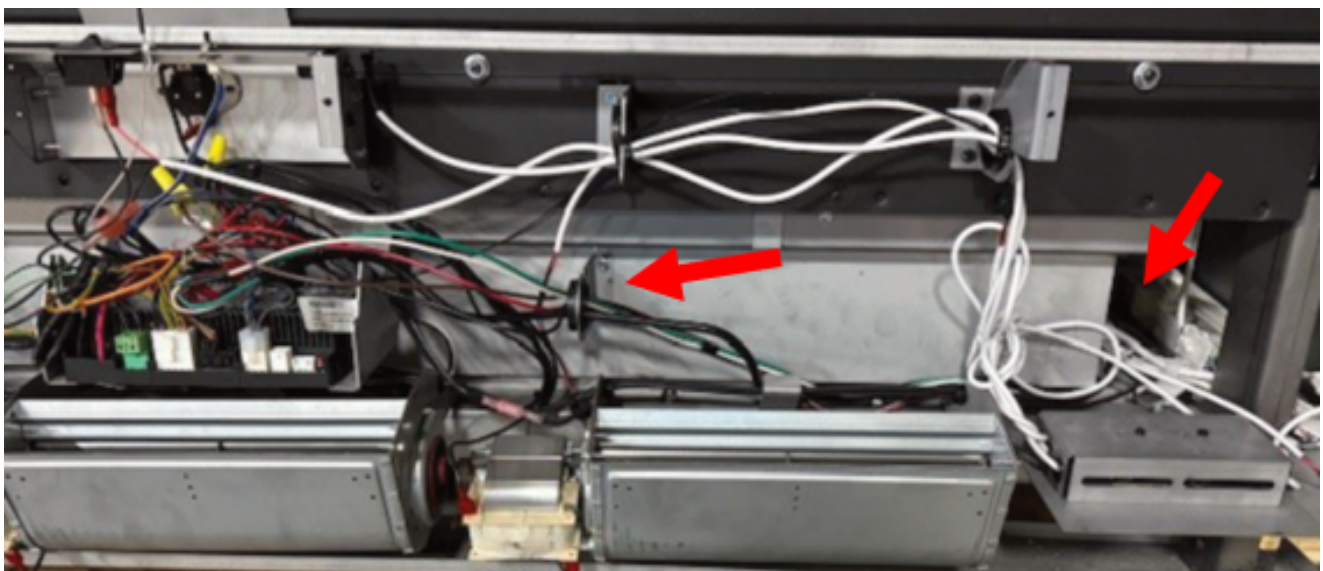

Figure 1.5 - LED Wiring Route
- You will want to route the wiring around the right side of the LED tray. Run the wiring near the power supply and right side firebox leg. When the wiring is at the front of the fireplace there is a wiring grommet where you can route the power vent wire harness. See Figure 1.5.